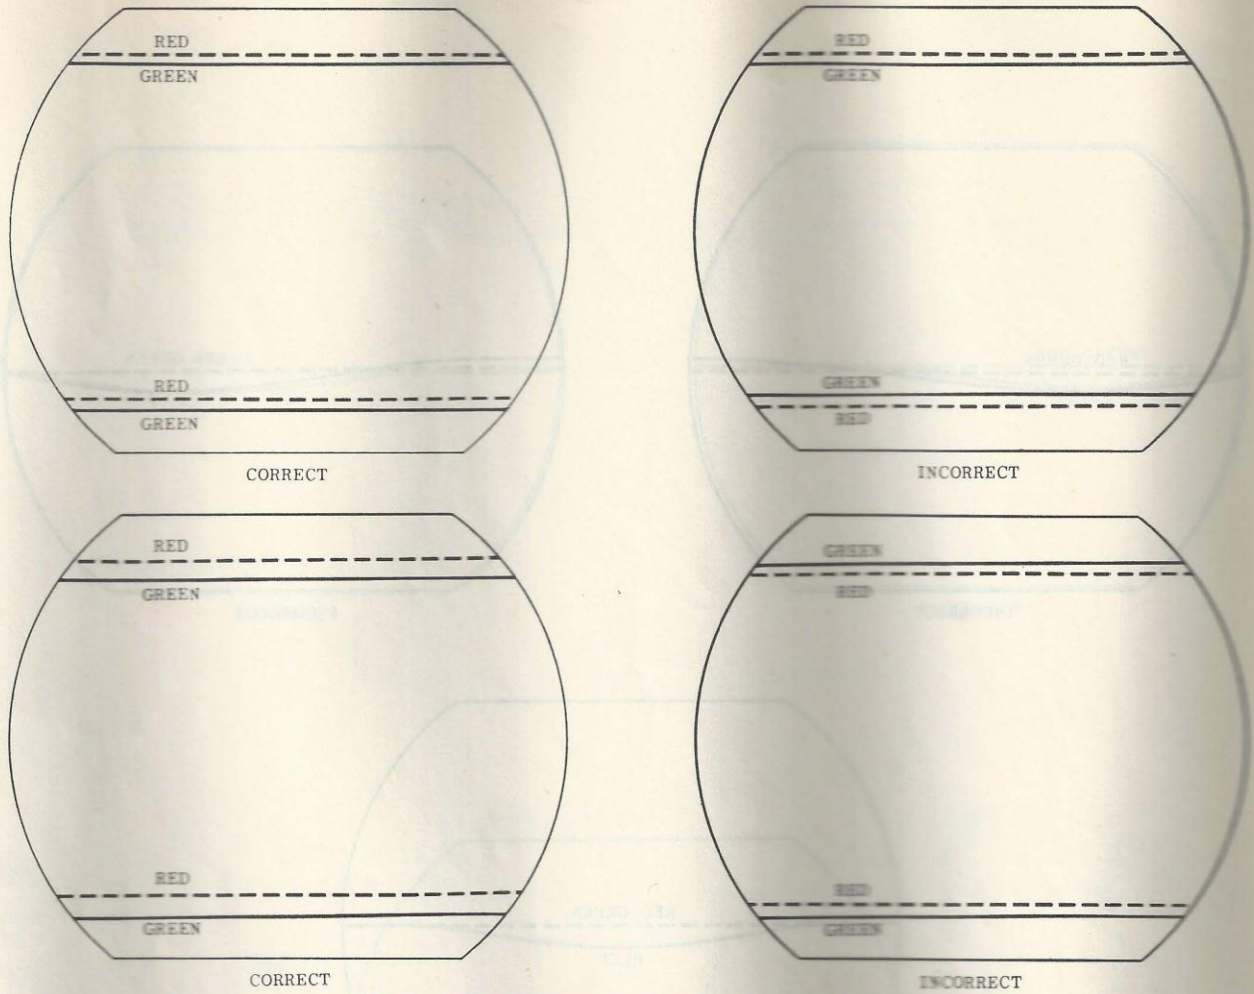

FIGURE 11. VERTICAL YOKE BALANCE POT ADJUSTMENT
7. Observe the red and green lines at the top and bottom of the screen and adjust the VERTICAL BALANCE POT (located in the square metal shield "can" mounted on top of the deflection yoke) so the lines are either superimposed or equally spaced with respect to each other...consistent with equal vertical size of the red and green rasters (see Figure 11).